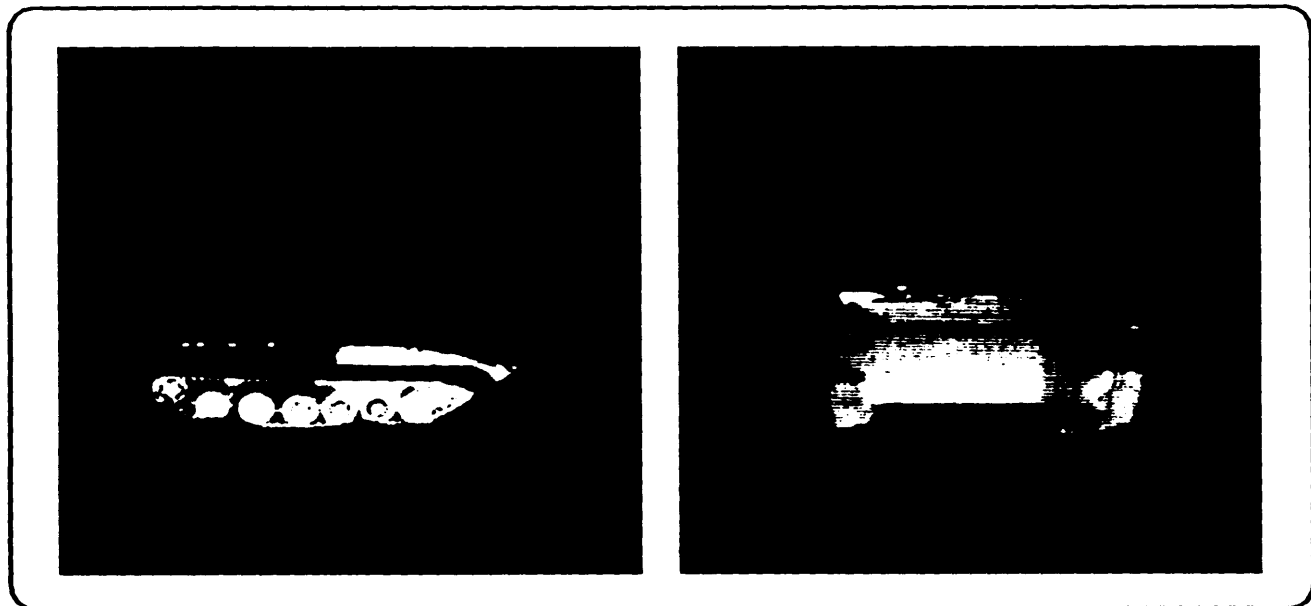

Figure A-6. BMP infantry combat vehicle.
f. BMP Infantry Combat Vehicle (Figure A-6).